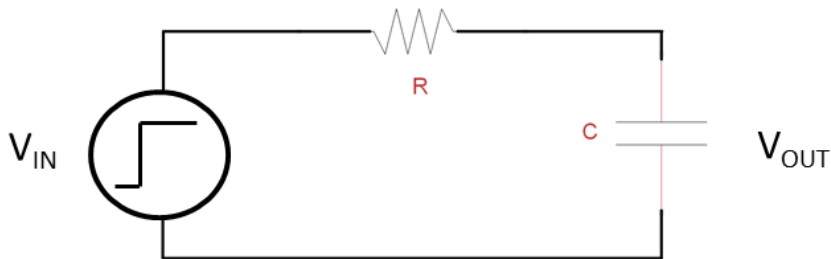

Figure 2. RC circuit driven by an ideal step voltage source. The source Voltage V_{IN} can provide positive or negative going steps.
- A. Calculate the RC time constant of the circuit in figure 2. Where R is 12k and C is 100 nF. Draw a sketch of a graph of voltage vs time of the voltage across the capacitor in response to a unit step voltage source. Label the time constant on the graph. A time range (x axis) of 10 time constants is reasonable.
An inductor stores potential energy in the form of current. Similar to the RC circuit, the RL circuit's dynamic behavior follows an exponential function, $e^{-tR/L}$. If the circuit in figure 2 has zero initial current, V_{IN} equals zero, and a step voltage of value V is switched on at $t = 0$, the Voltage across the inductor (V_{OUT}) will behave according to this equation.
Goal: Measure the time constant of an RC and an RL circuit, compare to the theoretical calculations. Use the schematics of figure 2 and 3 as your circuits.